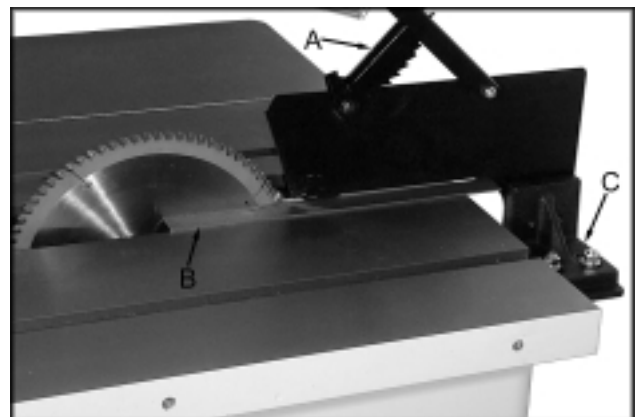

Fig. 8
1. Raise blade guard away from table and hold anti-kickback pawls away from table surface with the cut-out in the guard arm, (A, Fig. 8).
2. Using a straight edge (B, Fig. 8), align the splitter with the saw blade. Be sure that straight edge rests against body of saw blade and not saw teeth.
3. The upper blade guard bracket (C, Fig. 8) may need to be adjusted to align the splitter to the blade.